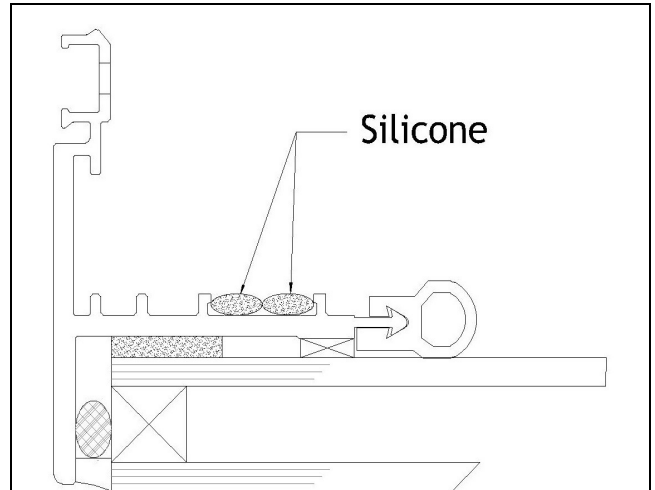

Figure 1- Silicone position.
- 1- Turn the first section to be put into position upside down and place two runs of silicone into the grooves on the underside of the extrusion as shown in figure 1.